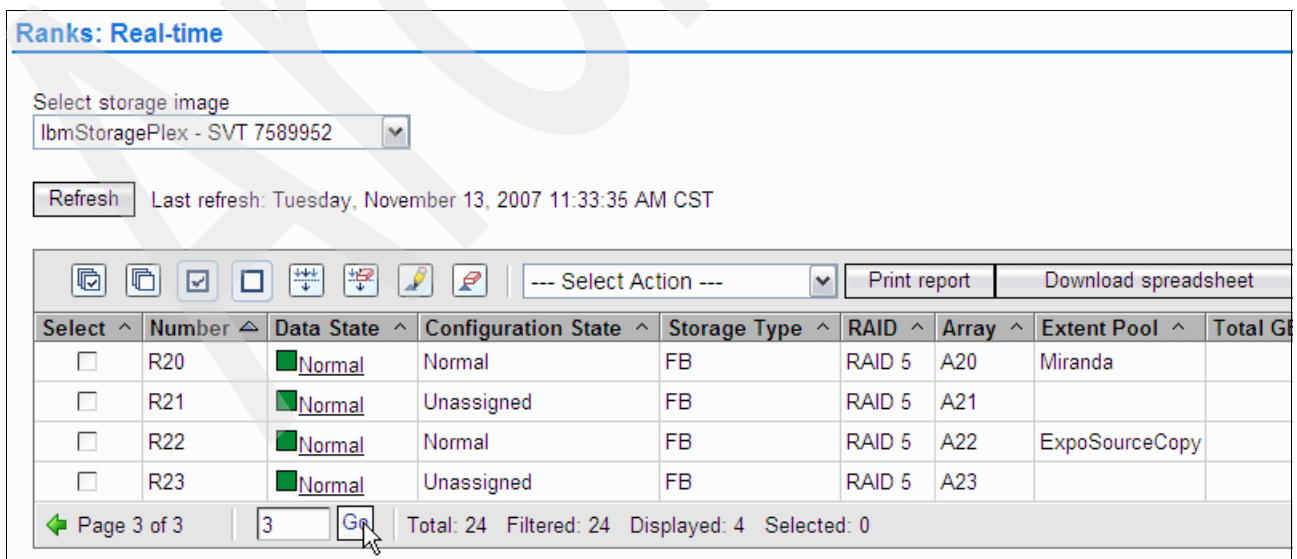

Figure 10-3 Check the availability of rank
- Next, create an extent pool to be assigned to a rank. You can check the availability of a rank with select **Real-time manager** → **Configure storage** → **Ranks**. In the panel on the right (see Figure 10-3), the rank R23 is listed as unassigned (that is no extent pool exists for this rank).